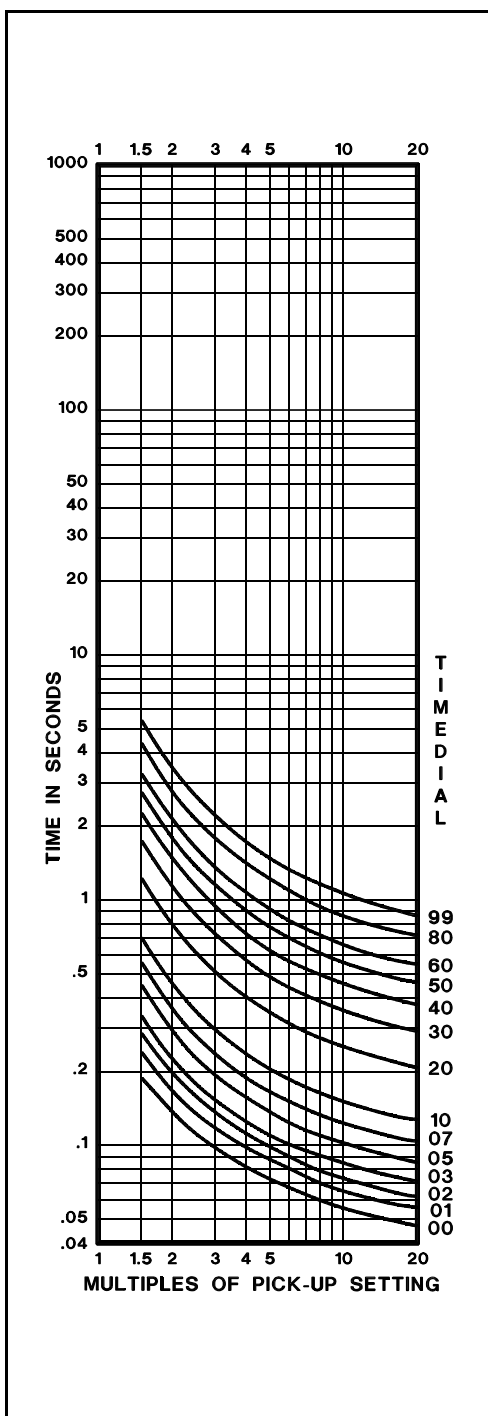

Figure 1-2. Timing Type B1: Short Inverse
**Time Delay Accuracy** ±5% of the characteristic curve (Figures 1-2 through 1-70) for any combination of the front panel **TIME DIAL** setting and the front panel **TAP/TAP CAL** overcurrent pickup setting.